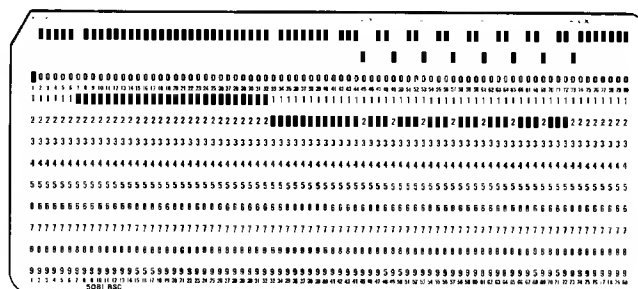

Figure 3.5. Programs Codes and Sample Punched Card
In order for the operator to prepare a correct program card, the locations assigned to the various fields must be known. A list of the field names and the card columns they will be punched into must be provided by the computer programmer or the keypunch supervisor. *The instructions to key the program card are listed in Figure 3-5.*
6. Key the program codes into the buffer. (*See Figure 3-5, Program Codes and Sample Punched Program Card.*)